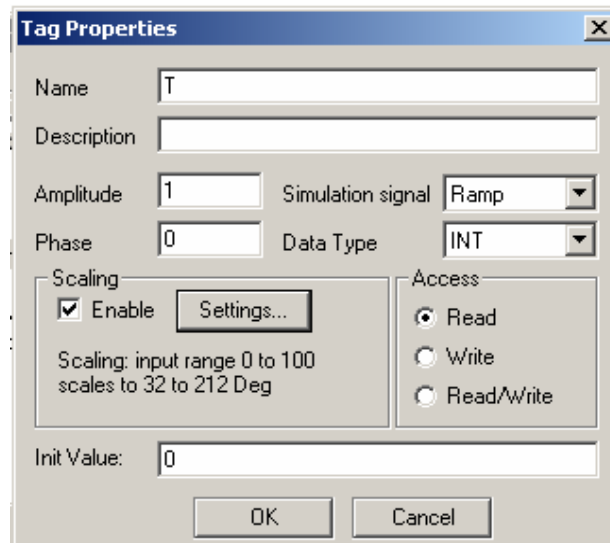

Figure 4.12. Base Tag
2. This opens the **Tag Properties** dialog box, as shown in **Figure 4.12**. Change the following parameters:
Your tag should appear as shown in Figure 4.12. This is simply a "base tag," i.e., one that you will "multiply" to produce several tags. Click **OK**.